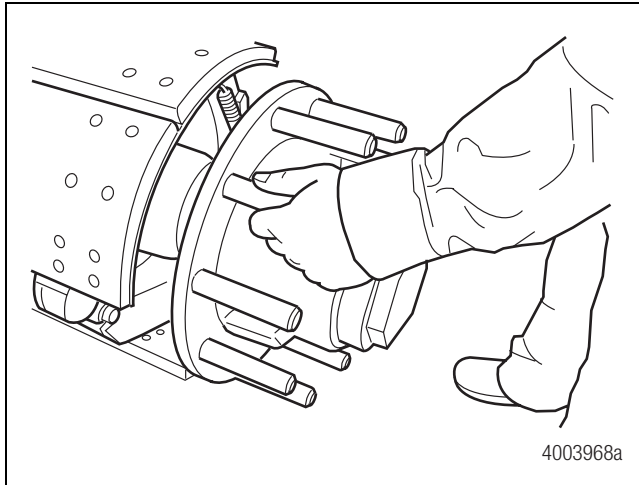

Figure 2.2
1. Rotate the hub. Figure 2.2.